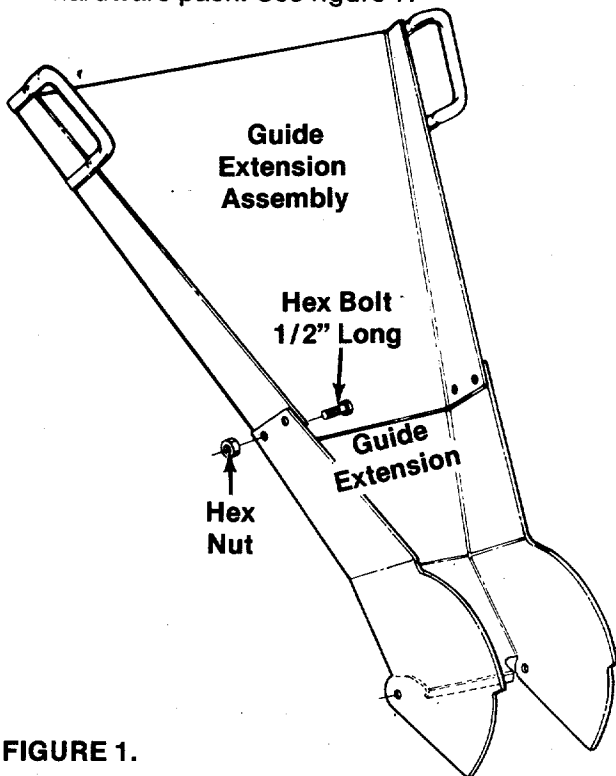

FIGURE 1.
2. Place the guide extension assembly in place on guide extension and secure with four hex bolts $\frac{1}{2}$ " long and hex nuts provided in hardware pack. See figure 1.